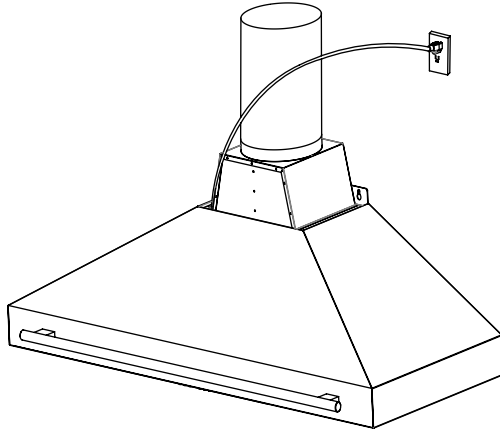

Figure 7.
11. Ensure a clear space behind the chimney for the power outlet. See Figures 7 and 8 for reference.